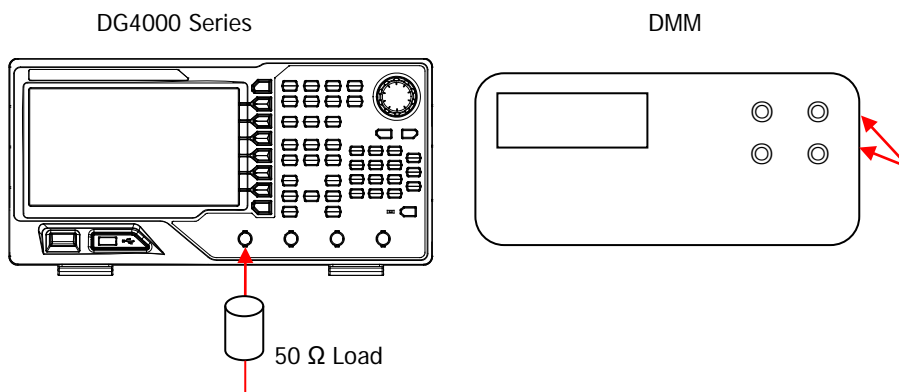

Figure 2-2 Connect DG4000 and the Digital Multimeter via the 50 Ω Load
1. Make sure that DG4000 has been warmed up for 30 minutes. Connect the 50 Ω load to the channel output terminal (take CH1 as an example; the test method is also applicable to CH2) of DG4000; connect the 50 Ω load and the voltage input terminals of the digital multimeter using the BNC - dual banana cable as shown in Figure 2-2.
1. Make sure that DG4000 has been warmed up for 30 minutes. Connect the 50 Ω load to the channel output terminal (take CH1 as an example; the test method is also applicable to CH2) of DG4000; connect the 50 Ω load and the voltage input terminals of the digital multimeter using the BNC - dual banana cable as shown in Figure 2-2. Press **Preset** at the front panel of DG4000 to restore the instrument to its default setting.